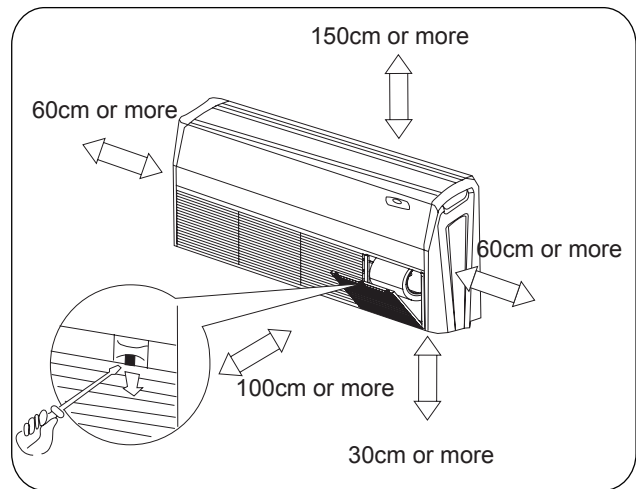

Fig.2
- (1) Such a place where cool air can be distributed throughout room.
- (2) Such a place where condensation water is easily drained out.
- (3) Such a place that can handle the weight of the unit.
- (4) Such a place which has easy access for maintenance.
- (5) Such a place where is permitting easy connection with the chilling water pipe.
- (6) Such a place where is 1m or more away from other electric appliances such as television, audio device, etc.
- (7) Avoid a location where there is heat source, high humidity or inflammable gas.
- (8) Be sure that the installation conforms to the installation dimension diagram.
- (9) The space around the unit is adequate for ventilation(Refer to Fig.2).
- (10) The height of the installed location should be 2.3m or more from the floor.